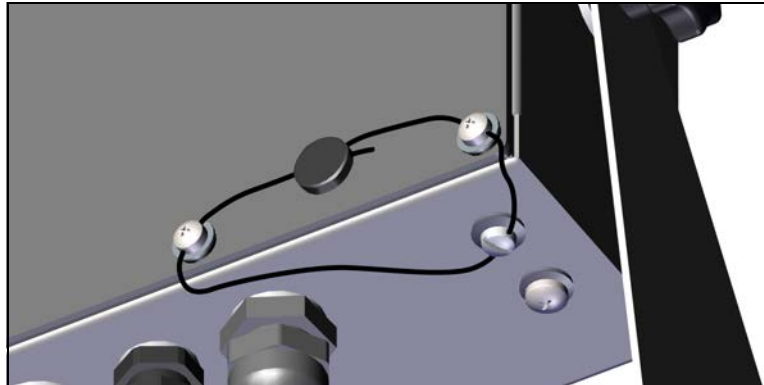

Figure 2-10. Sealing the Indicator – No Access
2. Navigate the sealing wire through the fillister head screws on the backplate and the fillister head screw at the bottom of the enclosure, as shown in Figure 2-10.